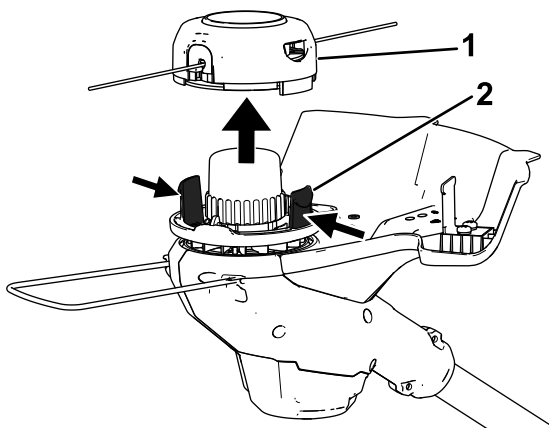

Figure 17
2. Press the tabs simultaneously on the side of the trimmer head and remove cover and spool (Figure 17).